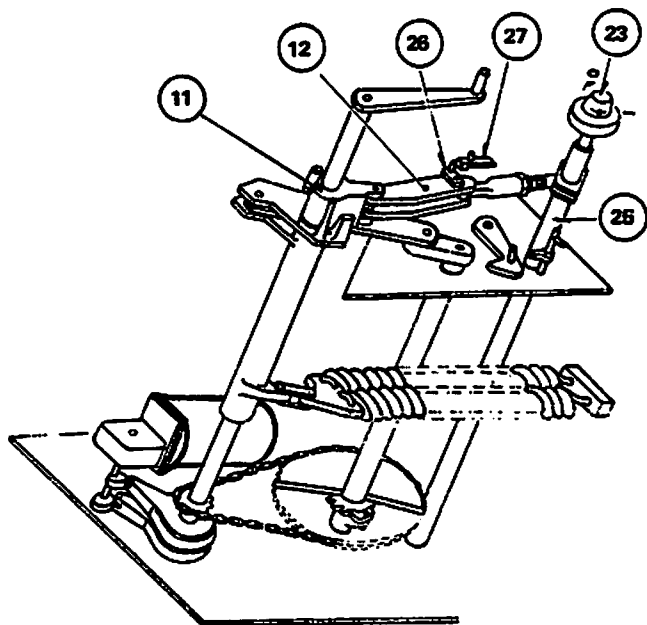

Figure 6c
7.2.3 Breaker Closed with Closing Springs Discharged (Figure 6c)